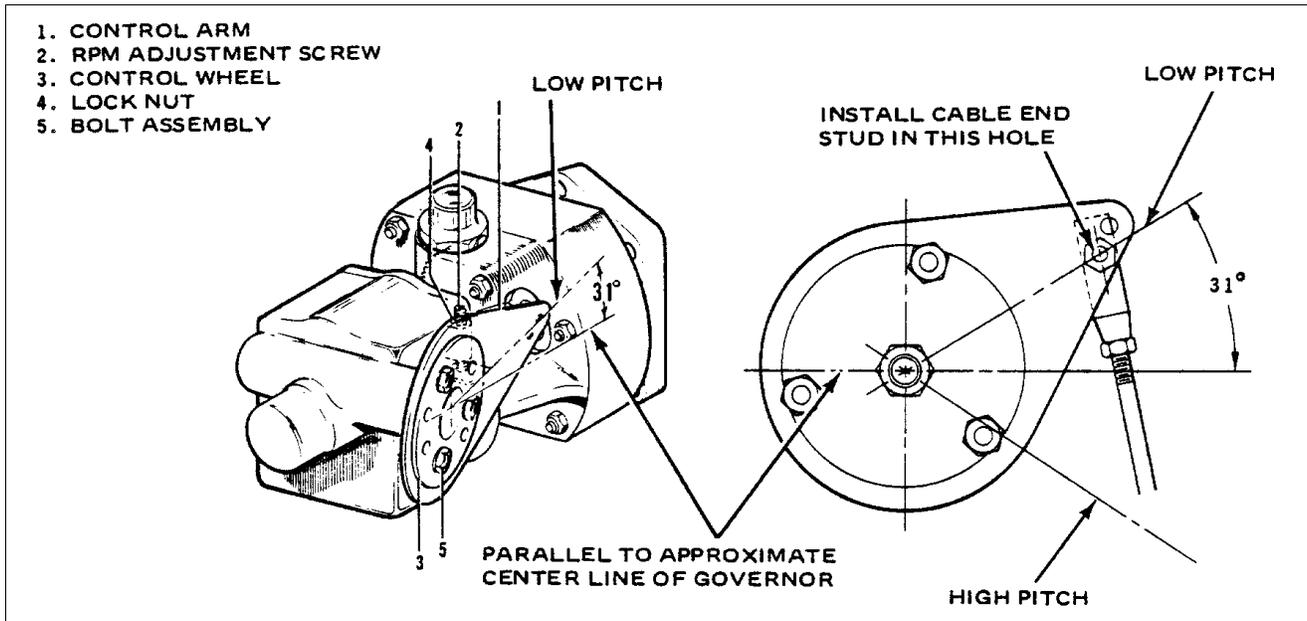

Figure 61-3. Propeller Governor
3. Rigging and Adjustment (Refer to Figure 61-3.)
- (1) Insure that the governor control arm is located approximately as shown on Figure 61-3.
- (2) Adjust control cable end hardware to obtain cockpit control cushion. Insure there is adequate thread engagement of clevis end and rod end bearing (witness holes) after adjustment.
- (3) Insure that the control cable assembly is not bottoming internally.
- (1) Shut down the engine and remove the upper engine cowl.
- (2) Adjust the governor by means of the fine adjustment screw to: **2700 RPM for HP S/N's 3246001 & up; 2500 RPM for TC S/N's 3257001 & up.** To do this, loosen the high RPM fine adjustment screw locknut and turn the screw in a clockwise direction to decrease engine speed or in a counterclockwise direction to increase engine speed.
- (3) Reinstall upper engine cowl and repeat step b to ascertain proper rpm setting.
- (4) After setting the proper high rpm adjustment, run the self-locking nut on the fine adjustment screw against the base projection to lock.
- (5) Ascertain that the governor control arm is adjusted to the proper angle on the control wheel as shown in Figure 61-3.